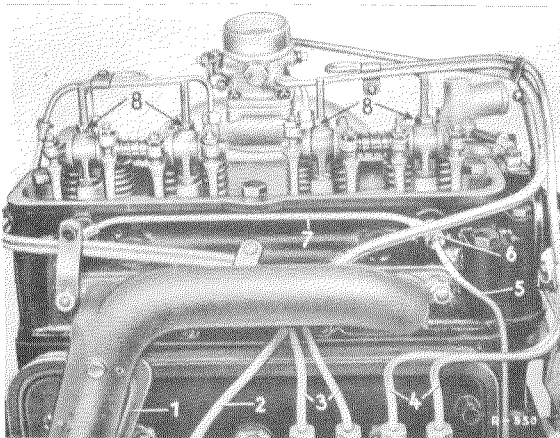

Figure 07-15/1
If the vacuum line (2) is also removed, disconnect same at the diaphragm housing of the injection pump and at the throttle duct (Figure 07-15/1).
Note: On the engines of the type 636.915 with two-piece cylinder head cover, the injection lines are installed between the two covers. Furthermore, the oil line (7) lubricating the rockers is installed on top of the injection lines and must therefore be removed before the removal of the injection lines (Figure 07-15/1).
3. Disconnect the feed hose (3) between the feed pump (2) and the filter (8), the connection hose (6) between filter (8) and injection pump (1) (see Figure 07-15/2).